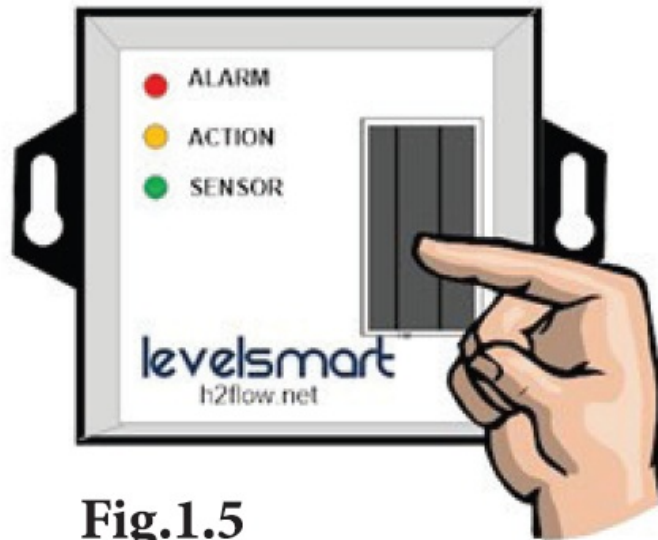

Fig.1.5
- Hold the magnet to the face of the Valve Controller in the position shown (Fig.1.5) for 2-4 seconds and remove it; the red ALARM LED should be observed to indicate correct magnet placement. Note that the positioning of the magnet is not always exact.
- Once the magnet has been removed, the ACTION LED will illuminate for five (5) seconds. When this occurs, the valve will open for five (5) seconds before closing. Confirm that the valve is open by listening for a click from the valve solenoid as soon as the magnet is removed and the ACTION LED illuminates. You may also hear water flowing through the valve. At the end of five (5) seconds, the ACTION LED will go off and the valve will close.